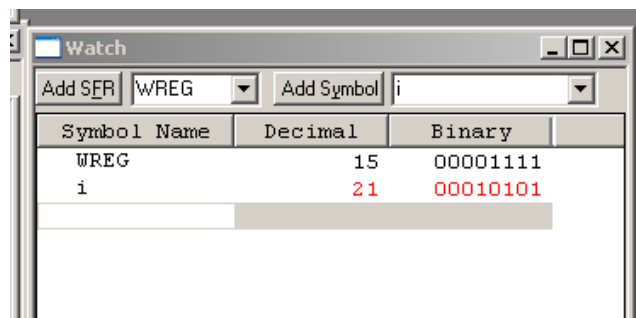

Fig 2.8: Adding the contents of WREG and file 'i'
- e. Step through until you reach the **addwf i, f** line of code. As you can probably guess, the **addwf** mnemonic is telling you that it will add the contents of the **WREG** with the contents of variable **i**. The additional piece of code that is included is the letter **f**. This is referred to as the *destination* bit, which can be either **f** or **w**. This means you can store the result of the addition in either the variable you're using, or the **WREG** (Fig 2.8).